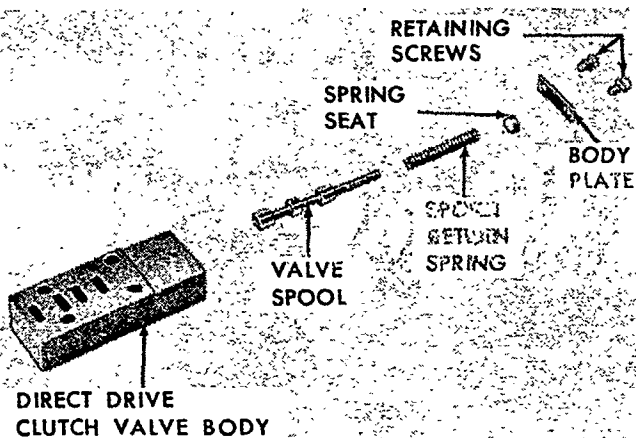

Figure 82
- and valve from the valve body, Figure 82.